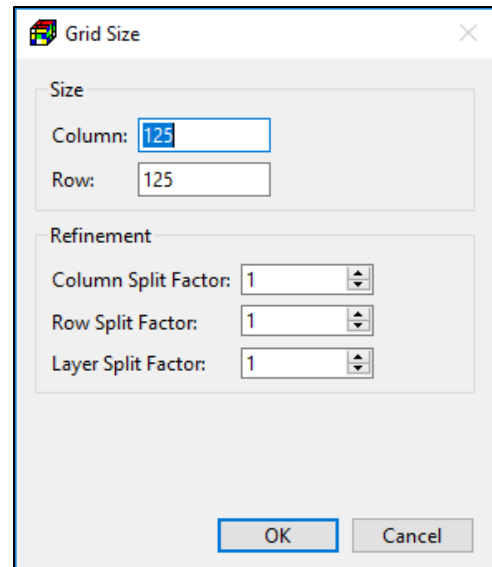

Figure 15. The Grid Size dialog box
- Right-click on the cell where the column/row width or refinement needs to be modified or use the arrow keys to move the grid cursor to the cell and press Enter. The Grid Size dialog box (Figure 15) will appear.